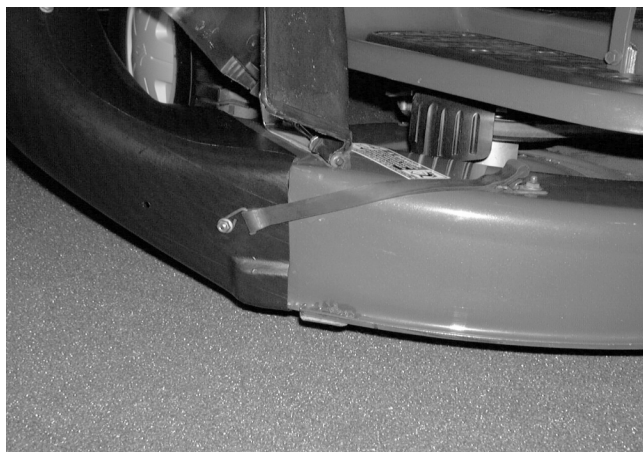

FIGURE 6.
8. Secure the discharge chute by hooking the retaining strap over the clip on the deck. See figure 6.